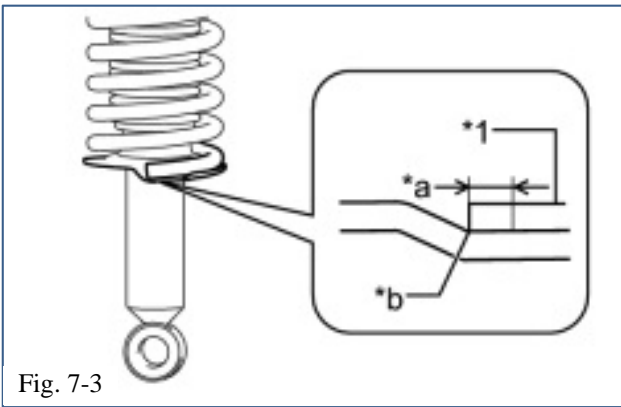

Fig. 7-3
(2) Index the TRD lowering spring onto the lower spring seat as shown in Fig. 7-3. The end of the coil should be positioned 0 to 10 mm (*a) from the spring seat stopper (*b).